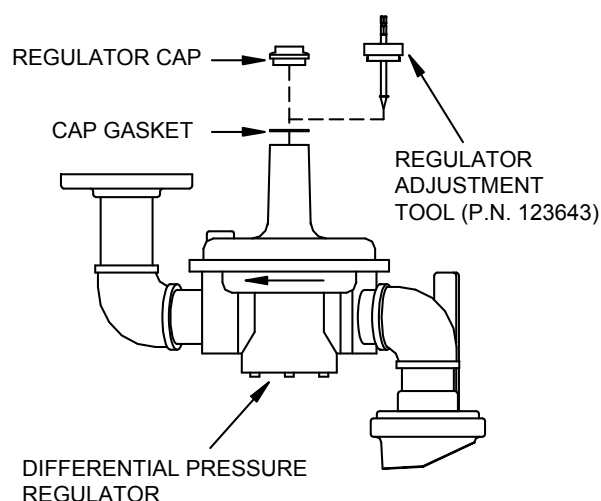

Figure 4.3
1. Remove the cap from the differential pressure regulator (see Figure 4.3).